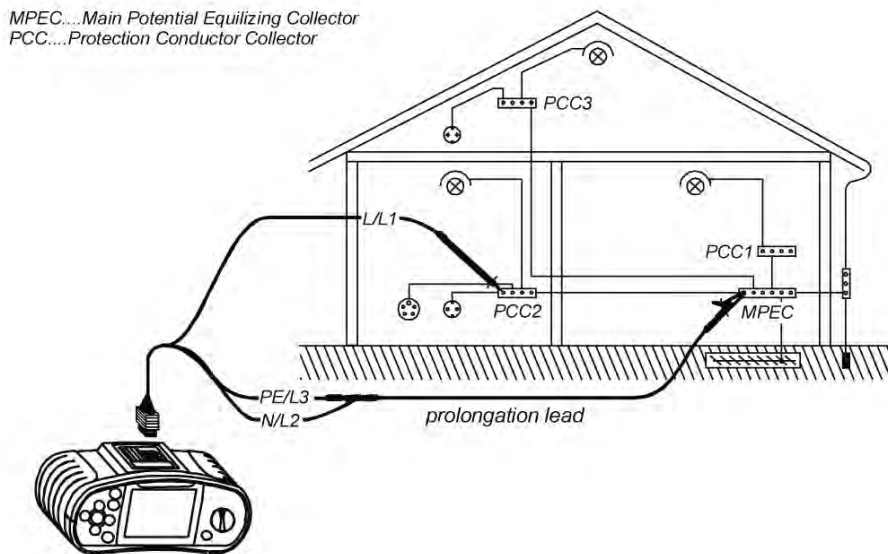

Fig. 5.6: Connection of universal test cable and optional probe test lead (extension)
Step 4 Connect test cable to the item under test. Follow the connection diagram shown in figures 5.6 and 5.7 to perform **Low Ω resistance** measurement. Use the **Help** function if necessary..